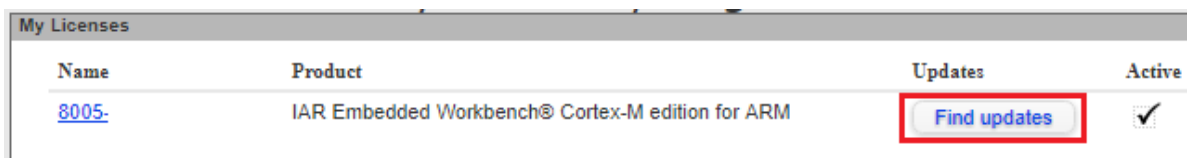

Figure 2: Update IAR Embedded Workbench
2. After successful login, click on **Find updates**. See Figure 2.